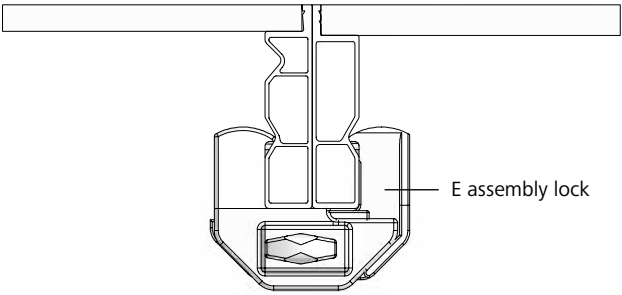

Fig. 12.2
- With single groove (until 2006) and double groove (from 2006) using the E assembly lock (Fig. 12.2).